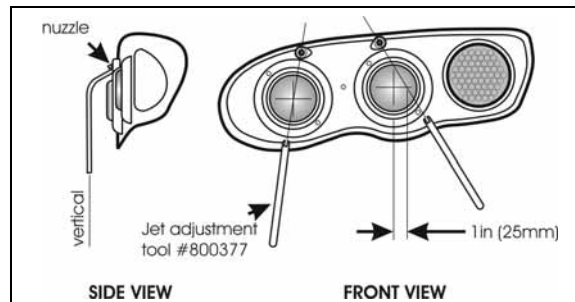
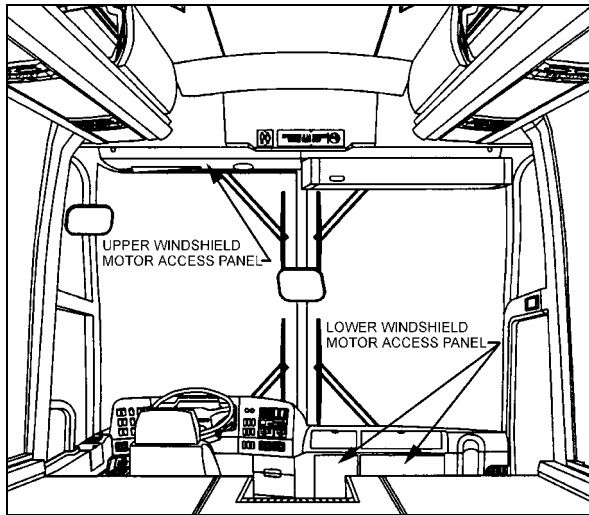

FIGURE 36: WASHER NOZZLES ADJUSTMENT 23363
FIGURE 37: WIPER MOTORS LOCATION
1. Remove the cap nuts from the wiper arm pivot shafts (Fig. 36 and 37);
2. Disconnect the windshield washer tubing at the base of the wiper arm (Fig 36 and 37);
3. Lower windshield wiper (Fig. 36): loosen the clamping set screw securing the drive arm to the knurled arm pivot shaft;
4. Remove the drive and idler arms (Fig. 36) or arm assembly (Fig. 37);
5. Relocate the drive arm (Fig. 36) or arm assembly (Fig. 37) on its knurled pivot shaft to obtain the desired position;
6. Lower windshield wiper (Fig. 36). Tighten the clamping set screw to secure the drive arm to the knurled shaft. Fit the idler arm onto the idler pivot shaft.
9. Check the adjustment on a wet windshield (Fig. 36 and 37).
1. Remove the cap nuts from arms (Fig. 36 and 37);
2. Disconnect the windshield washer tubing at the base of the wiper arm (Fig. 36 and 37);
4. Lower windshield wiper (Fig. 36): loosen the clamping set screw on the base of the drive arm;
5. Remove the wiper arm assembly (Fig. 36 and 37).
1. Make sure the wiper motor is in the stop position. Lower windshield wiper (Fig. 36): position the wiper arm on the knurled drive shaft and idler arm on the pivot shaft. Upper windshield wiper (Fig. 37): position the wiper arm assembly on the knurled drive shaft;
4. Lower windshield wiper (Fig. 36): Tighten clamping nut onto the drive arm. Install cap nuts onto the arm shafts (Fig. 36 and 37);
5. Connect the windshield washer tubing at the base of the wiper arm (Fig. 36 and 37);
6. Check the adjustment on a wet windshield (Fig. 36 and 37).